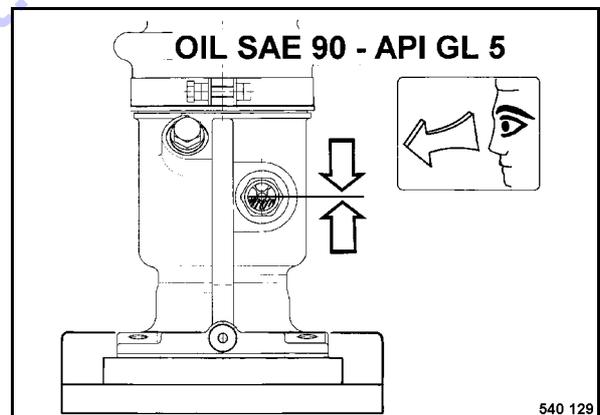

Fig. 59
- Clean the inspection glass (Fig. 59) and check the oil level.